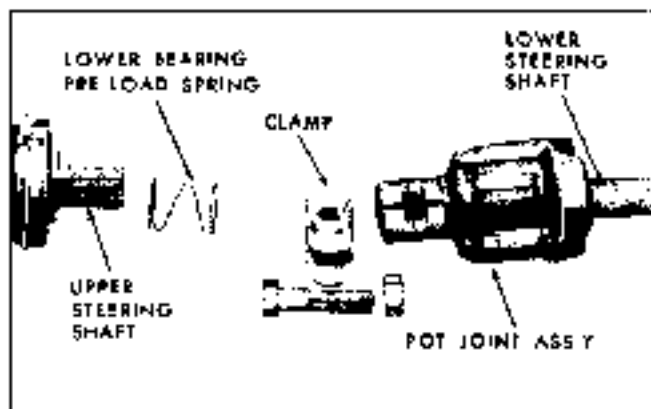

Fig. 9-17 Removing Pot Joint and Lower Shaft from Upper Steering Shaft (Tempest Only)
3. Mount column in vise, using tool J 22573 (Fig. 9-15) or by clamping one tapping plate in a vise (Fig. 9-16). On Tempest models disconnect lower shaft and pot joint from upper shaft by removing clamp (Fig. 9-17) if pot joint is to be serviced.
NOTE: On Tempest models assemble lower steering shaft and put joint to upper steering shaft. Tighten clamping nut to 32 lb. ft. (Fig. 9-17).
3. Mount column in vise using tool J 22573 (Fig. 9-15) or by clamping one tapping plate in a vise (Fig. 9-16). On Tempest models disconnect lower shaft and pin joint from upper shaft by removing clamp (Fig. 9-17).